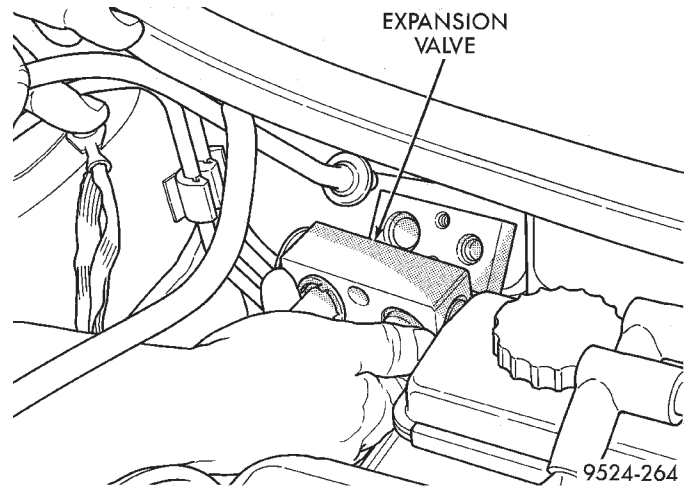

Fig. 50 Expansion Valve
- (6) Remove expansion valve (Fig. 50).
- (7) Remove expansion valve gasket.